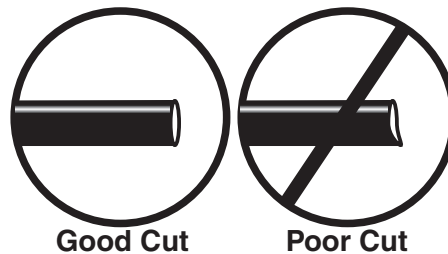

fig. 19
WHEN CUTTING OR TRIMMING THE AIR LINE, USE A HOSE CUTTER, A RAZOR BLADE, OR A SHARP KNIFE. A CLEAN, SQUARE CUT WILL PREVENT LEAKS. DO NOT USE WIRE CUTTERS OR SCISSORS TO CUT THE AIR LINE. THESE TOOLS MAY FLATTEN OR CRIMP THE AIR LINE CAUSING IT TO LEAK AROUND THE O-RING SEAL INSIDE THE ELBOW FITTING (FIG. 19).
- a. Check the air line connection by deflating the spring and removing the line by pulling the collar against the fitting and pulling firmly on the air line. Trim 1" off the end of the air line. Be sure the cut is clean and square (see fig. 19). Reinsert the air line into the push-to-connect fitting.